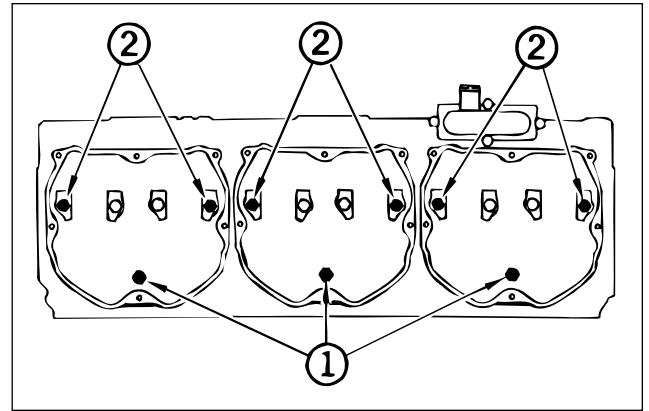

FIG. 7
Refer to Fig. 7 to determine the cylinder head bolts (1) and rocker shaft bolts (2) to be removed.